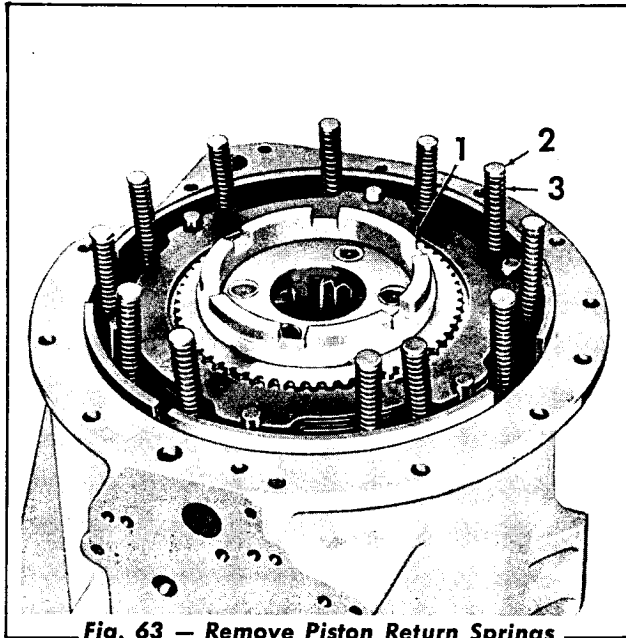

Fig. 63 — Remove Piston Return Springs
1. Remove the thrust washer (Fig. 63), the piston return spring guides, and the springs.